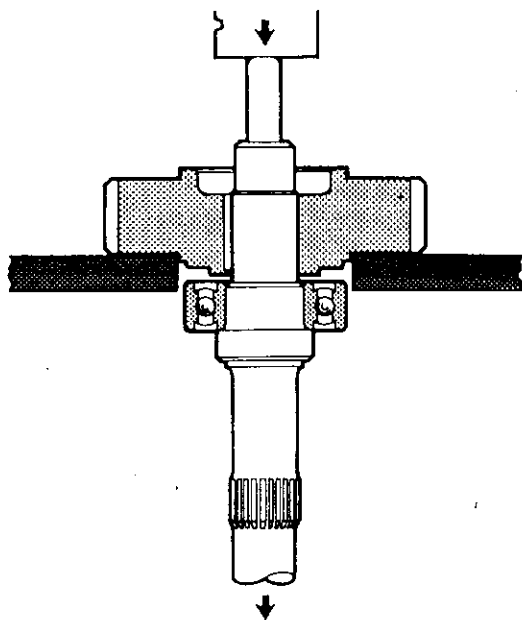

Figure 5.9
from drive gear. Remove drive shaft gear key (27). See Figure 5.9.